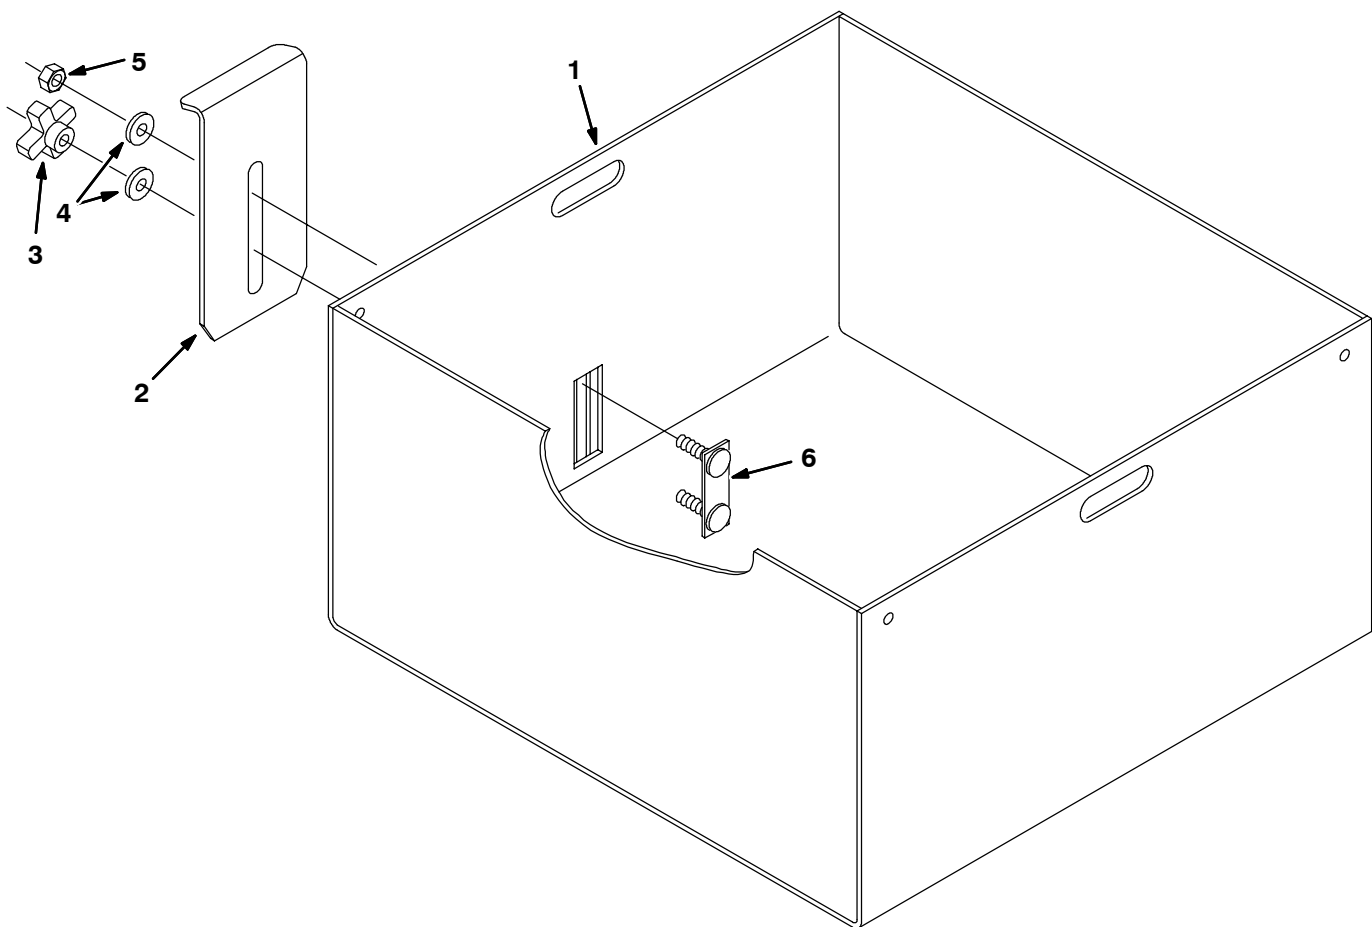

FIG. 1 - ROLLOUT BATTERY EXTRA CASE KIT
(Refer to FIG. 1, 2 and 3)
(Refer to FIG. 1)
(Refer to FIG. 1 and 2)
2. Mount the battery latch angle (2) to the battery housing (1) with the 2 stud weldment (6), washers (4), lock nut (5) and threaded knob (3). Tighten the hardware enough to allow the battery latch angle (2) to slide up and down easily. (Refer to FIG. 1 and 2)